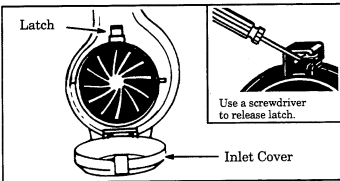

Figure 14
- b. Open the inlet cover (Figure 14).